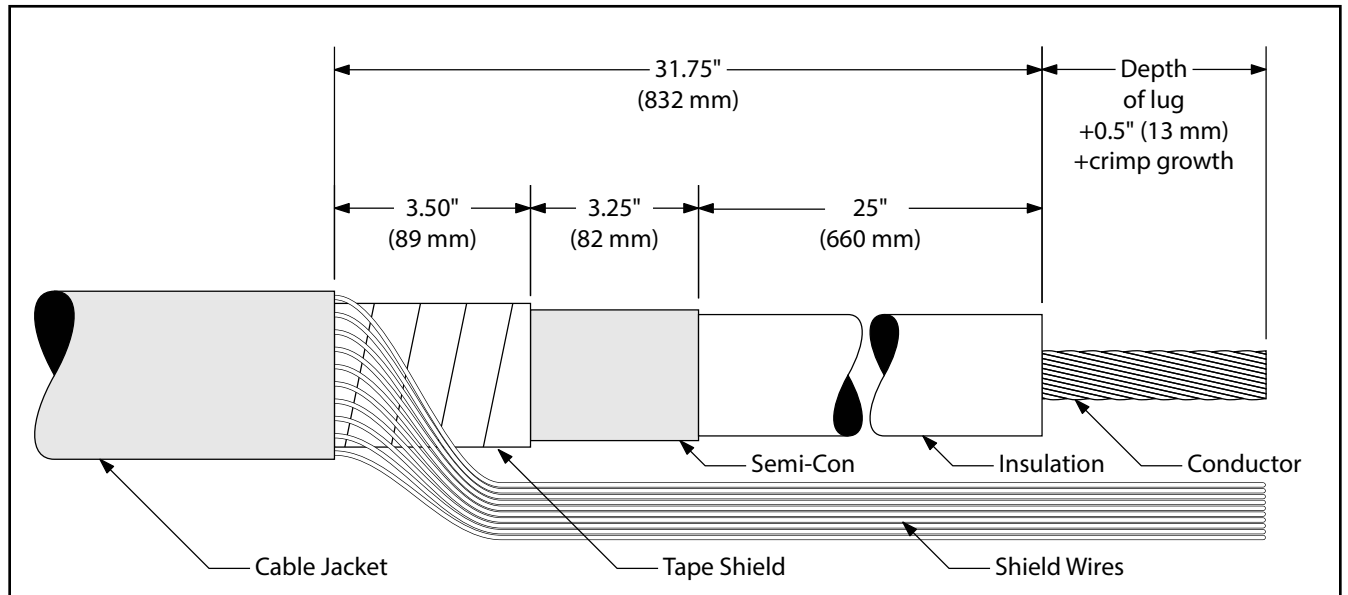

Figure 11
- 3.2 Prepare cable using dimensions shown in Figure 11. **Be sure to allow for depth of terminal lug plus 0.5" (13 mm) plus crimp growth.**